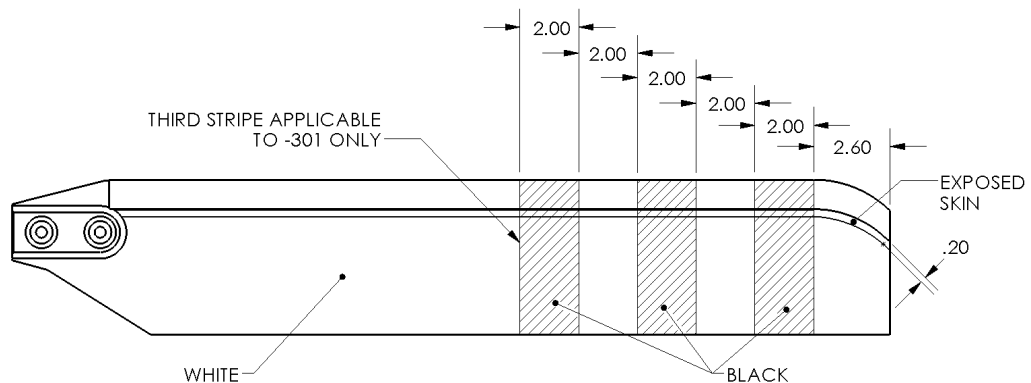

Figure 5.2
VHA finishes the tail rotor blade using an epoxy surfacing film co-cured with the skin, epoxy paint primer, and polyurethane top coat. Basic blade color is white with 2.0 inch high visibility black stripes as shown in Figure 5.2.
- c. Exposed skin not exceeding 0.20 inch aft of abrasion strip trailing edge must be protected by at least one coat of epoxy primer within 25 flight hours of exposure. See Figure 5.2.
- d. Exposed skin exceeding 0.20 inch aft of abrasion strip trailing edge must be protected by at least one coat of epoxy primer within 10 flight hours of exposure. See Figure 5.2.